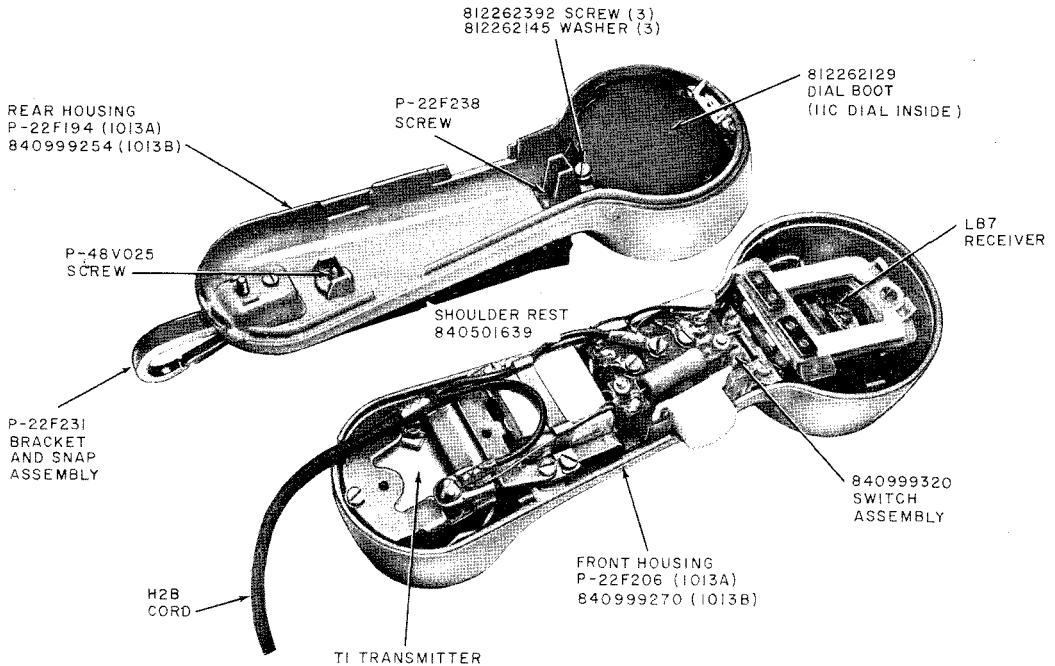

Fig. 2—1013B Handset—Interior View
4.01 All parts shown and identified by part number in Fig. 2 may be replaced locally.
4.02 To access the internal parts, remove the three housing assembly screws (Fig. 2). One of the screws serves as the fastener for the P-22F231 bracket and snap assembly.